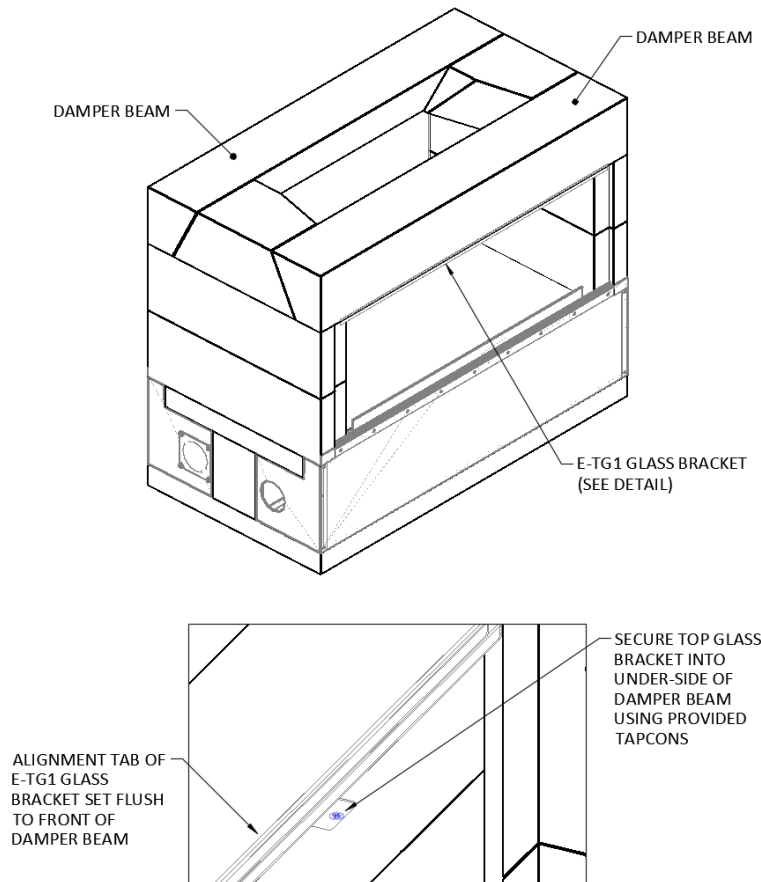

FIGURE 16
- 10) For the 48" model, secure the Top Glass Bracket B (E-TG1) to the underside of the front damper beams using the provided 1/4" tap-con screws. The tap-con screws will require a 3/16" pilot hole to be drilled prior to attachment. It is recommended to coat the 1/4" tap-con screw with Earthcore Adhesive before inserting into pilot hole to create a sealed fastening **(Figure 16)**.